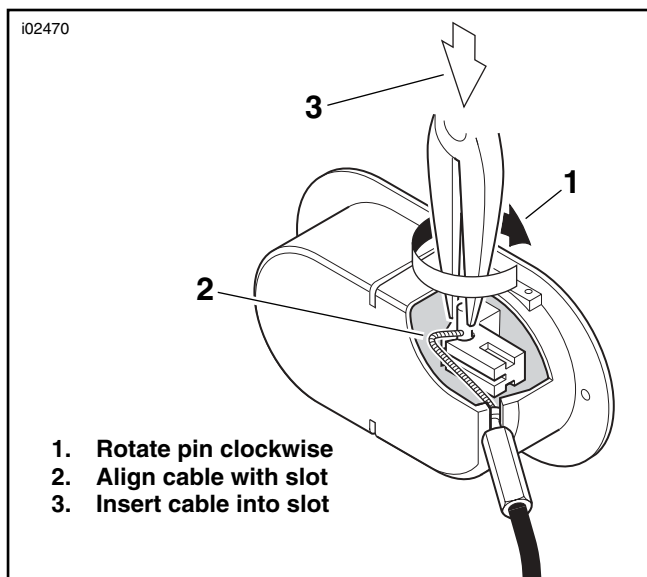
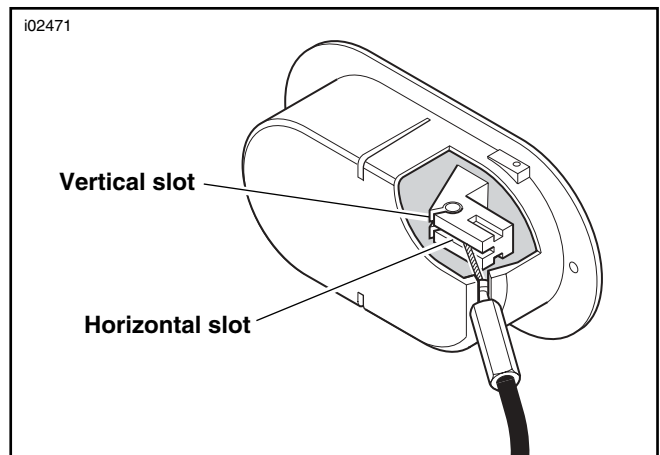

Figure 10. Rotate Cable Into Slot
Figure 11. Cable Properly Installed In Handle
6. See Figure 10. With a firm grip on the pin, rotate clockwise to align the cable end with the vertical slot in the handle, then use a firm downward pressure to insert the cable and pin further into the hole and the vertical slot until the cable snaps into the horizontal slot (see Figure 11).